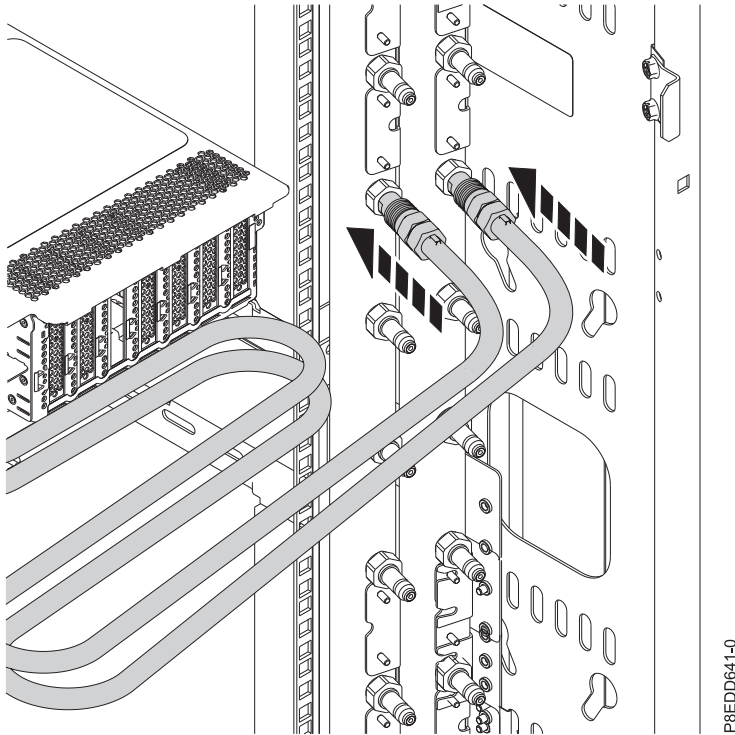

Figure 102. Reconnecting the water hoses
7. Replace the water hoses into the cable management arm and reconnect them at the rear of the rack, as shown in Figure 102 on page 97.